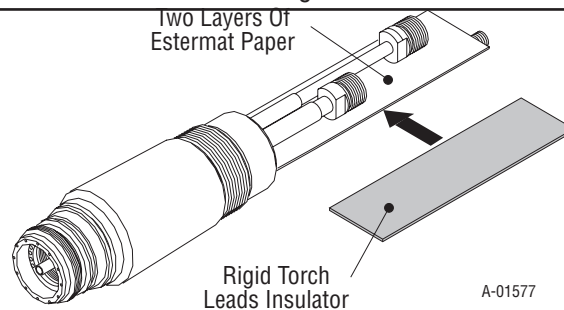

Figure 7-9: Rigid Insulator Installation
3. Remove the rigid insulator from the old Torch Head Assembly from between the layers of Estermat paper and install replacement insulator. Refer to "Figure 7-9: Rigid Insulator Installation" on page 7-10 for location and orientation of rigid insulator.